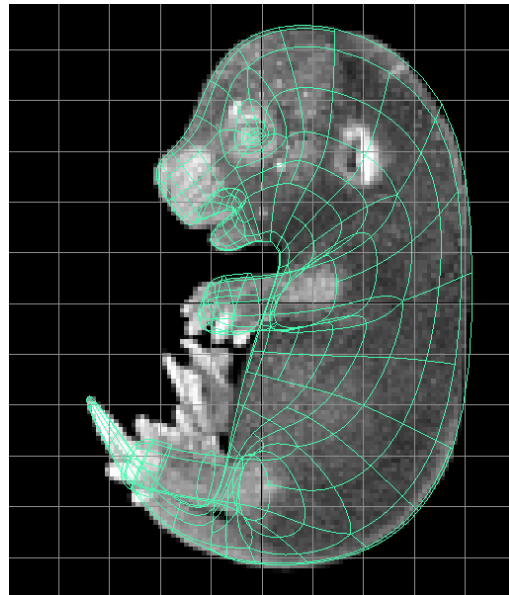

Figure 24: The model's profile is adjusted to match the image
5. Don't try to close the mouth, you will need to access the mouth interior to add detail in a moment. If you're using the mouse_v1_10.ma file it should already resemble figure 24 when you open the file.